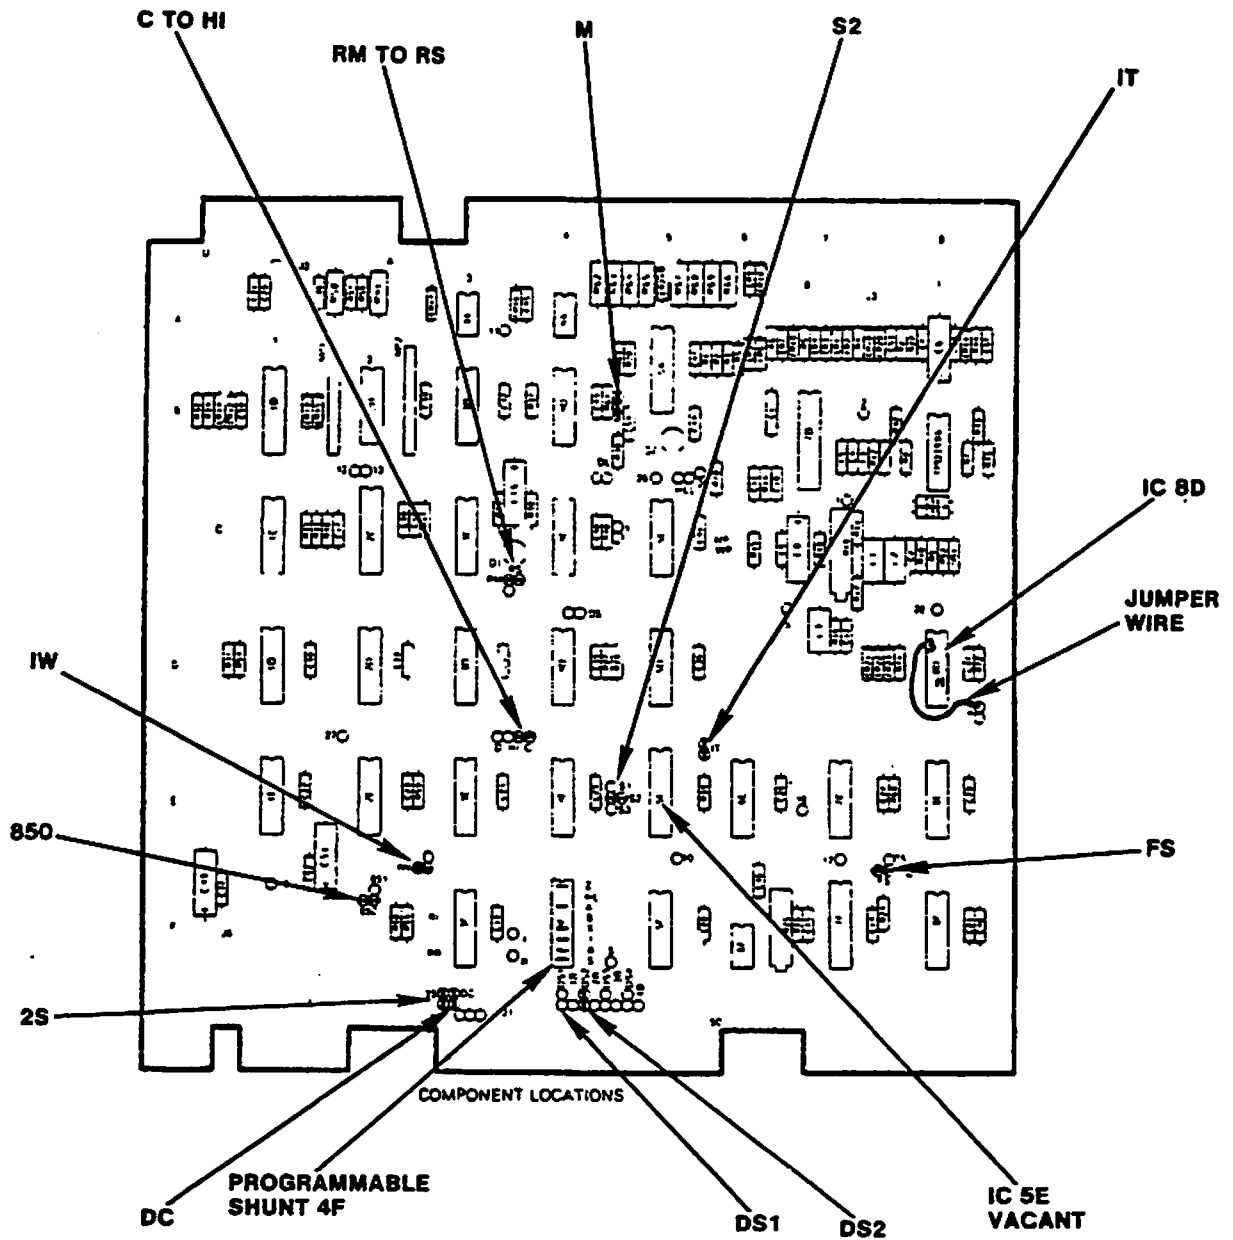

FIGURE 1 2200LVP/SVP JUMPER CONFIGURATION (MLC10).
Board MLC 10 must have pins 3 and 11 of IC 8D jumpered together. (Pin 11 is connected to one end of jumper location F. See Figures 1 and 2.) This modification is required for both LVP/SVP and VS-AWS operation. On boards MLC 11 and higher, Shugart has provided a jumper (AF) and a NOR gate (5D) to eliminate the need for this jumper wire.